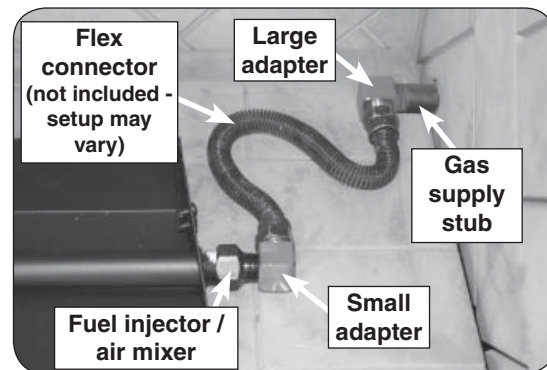

Fig. 11-1 Connect gas supply
2. Locate the gas-supply stub inside the fireplace and remove the cap, if attached (reference Fig. 11-1).
3. Remove the small adapter connected to the flex connector (not included). Attach the adapter to the fuel injector / air mixer found on the side of the burner pan using a pipe compound resistant to all gasses. Tighten securely. Then attach the flex connector to the adapter. Tighten securely (See Fig. 11-1).
5. **Be sure gas to the fireplace is off.** Remove the large adapter connected to the flex connector (not included). Attach the adapter to the gas-supply stub using a pipe compound resistant to all gasses. Tighten securely. Then attach the flex connector to the adapter. Tighten securely. See Fig. 11-1. Ensure the pan rests level on the fireplace floor after connection. Adjust the pan if necessary.